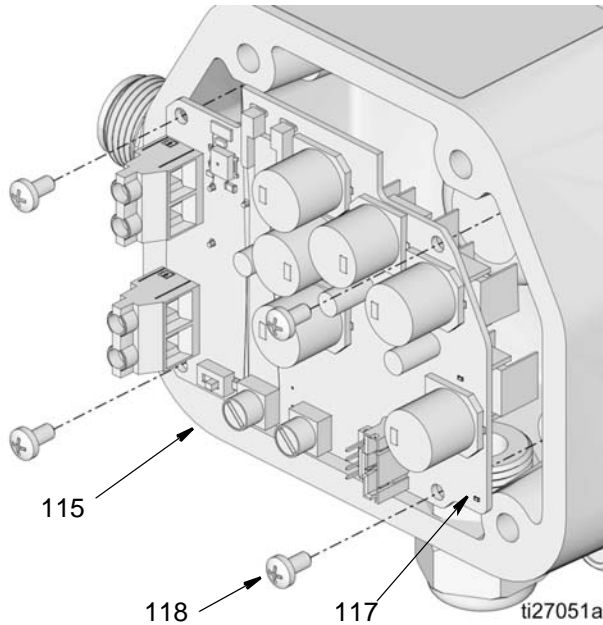

FIG. 69
1. Install new motor control board (117) in housing (115) using screws (118) (FIG. 69). Torque to 8 - 10 in. lbs (0.9 - 1.1 N.m).